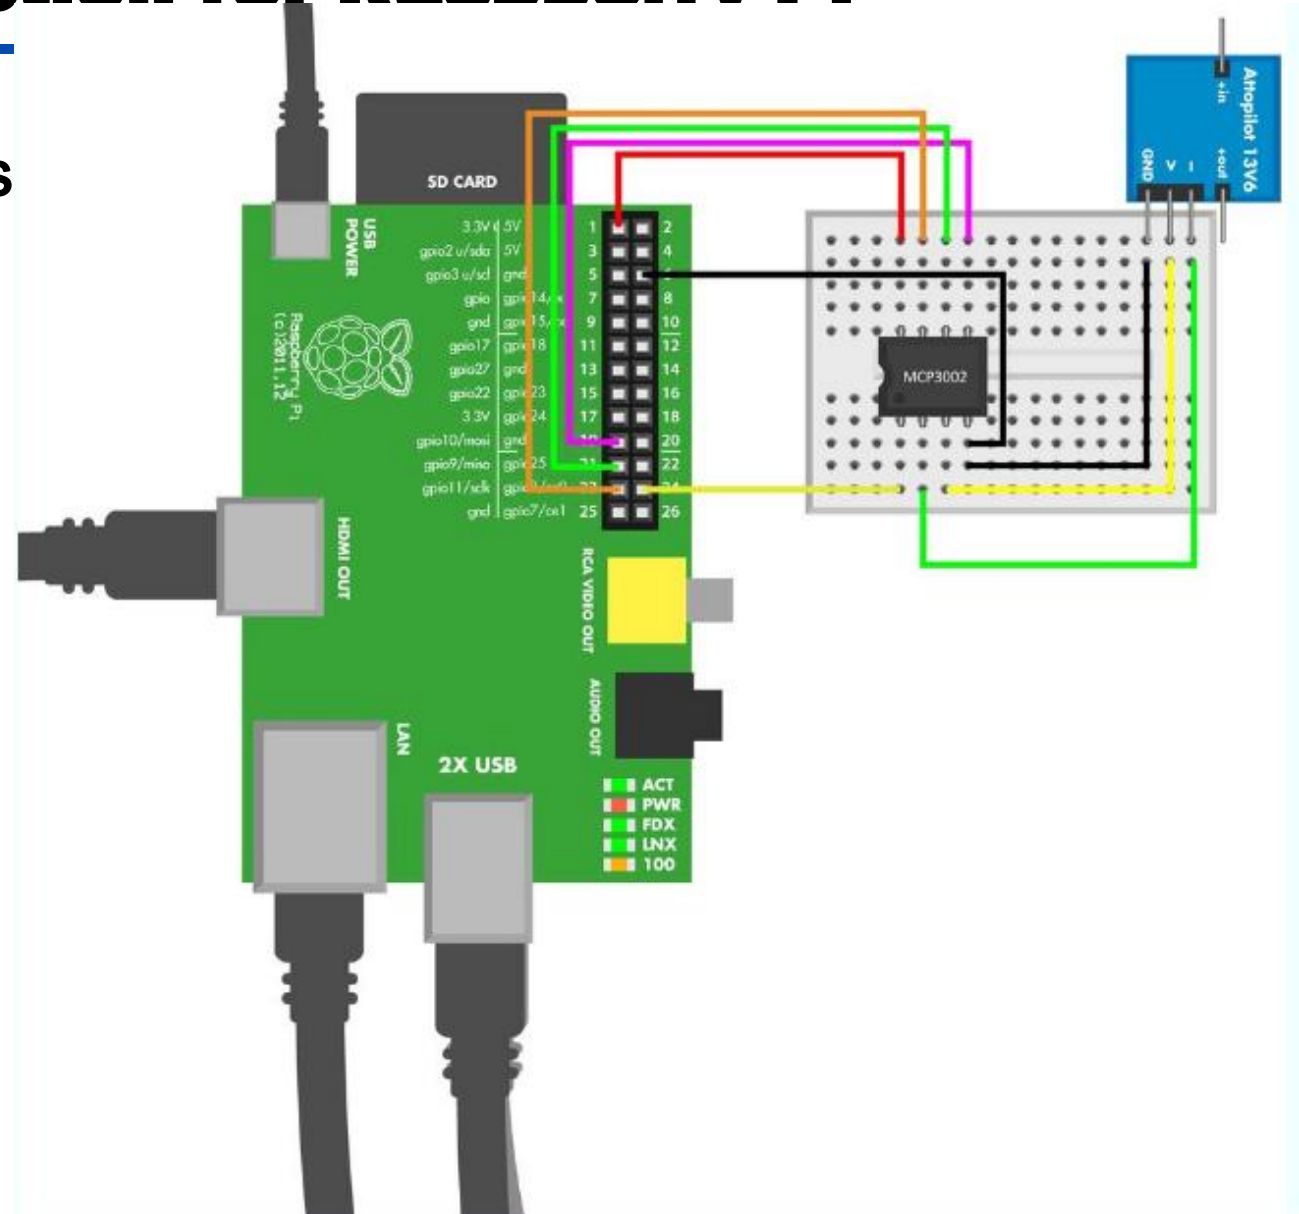

Figure 10-2. Raspberry Pi connections for the AttoPilot
- Figure 10-2 shows the connections